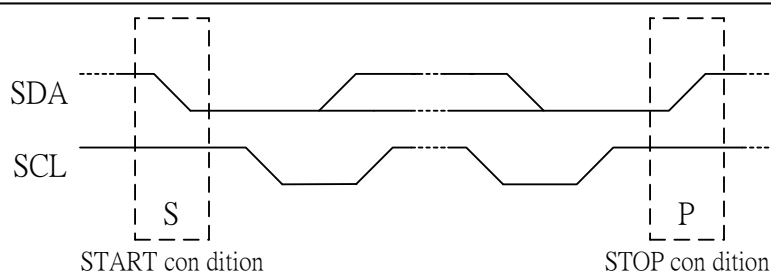

Fig .7.2 Definition of START and STOP conditions
Both data and clock lines remain HIGH when the bus is not busy. A HIGH-to-LOW transition of the data line, while the clock is HIGH is defined as the START condition (S). A LOW-to-HIGH transition of the data line while the clock is HIGH is defined as the STOP condition (P). The START and STOP conditions are illustrated in Fig.7.2